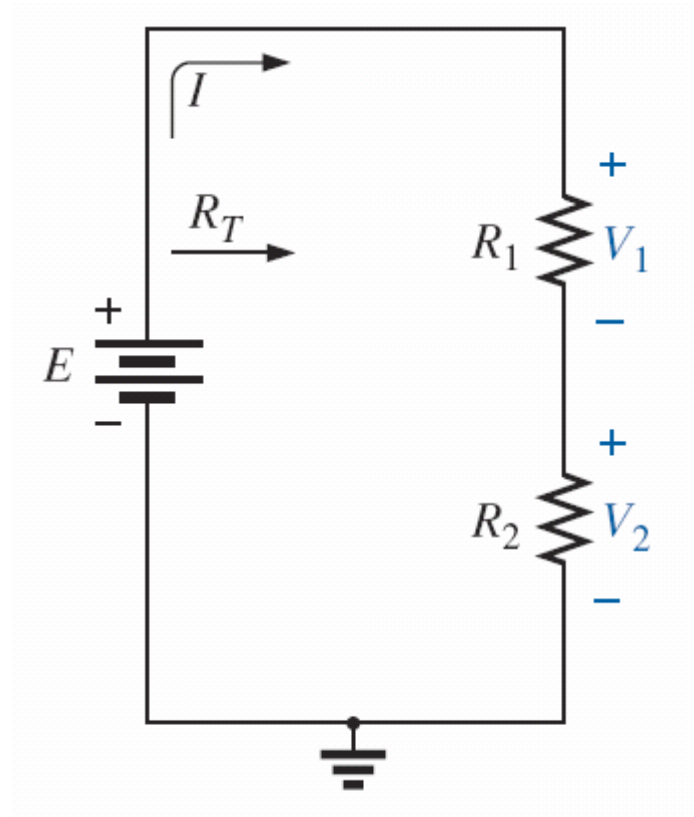

FIG. 5.36 Developing the voltage divider rule.
- ❖ The rule itself can be derived by analyzing the simple series circuit in Fig. 5.36.